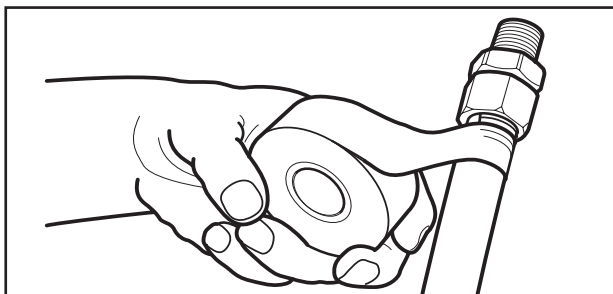

Figure: 4-17 Wrapping with self bonding silicone tape - begin on jacket.
- When installed outdoors, the plastic jacketing shall remain intact as much as practical for the given installation. Any portions of exposed stainless steel shall be wrapped with self bonding silicone tape sealing the fitting connection to prevent later corrosive attack by acid wash or chloride based compounds. Figures: 4-17 and 4-18.
- When *TracPipe® CounterStrike®* is installed in a swimming pool mechanical room or exposed to a corrosive environment which may be harmful to the tubing, all exposed portions of the stainless steel tubing shall be wrapped with self-bonding tape. Figures: 4-17, 4-18.